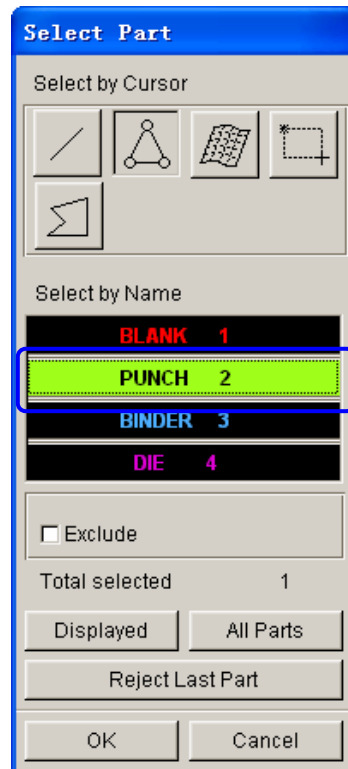

Figure 2.23 Select part dialog box
6. Select **PUNCH** part from the SELECT PART dialog box illustrated in Figure 2.23.